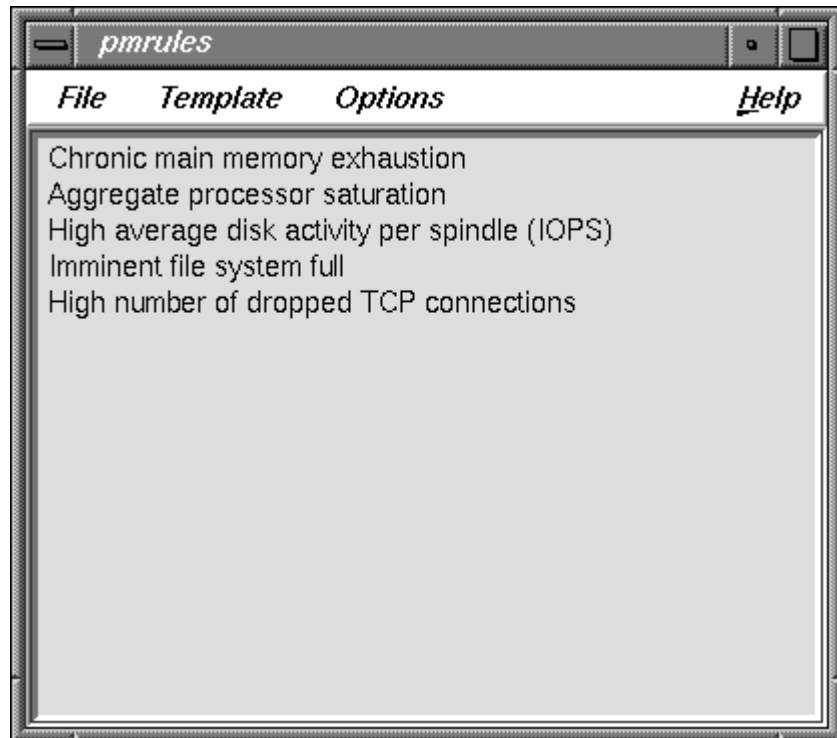

Figure 6-4 `pmrules` Main Dialog after Template Selection
4. Select the desired templates, click OK, and return to the `pmrules` main window, which appears similar to the one shown in Figure 6-4.